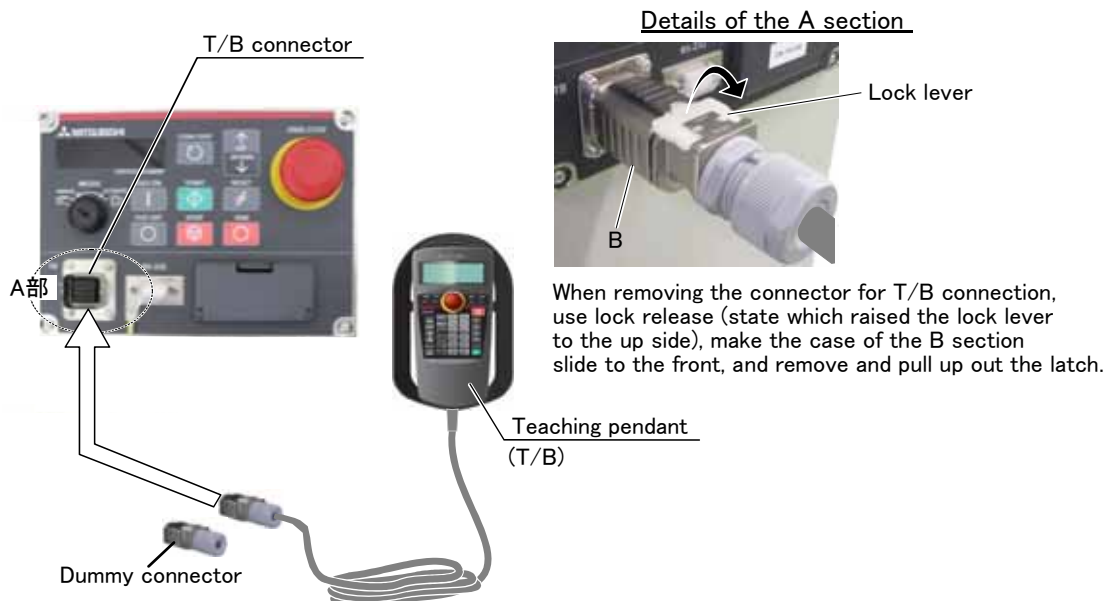

Fig.2-8 : Installing and removing the T/B
- 2) Connects T/B connector to the robot controller. Use as the upper surface the lock lever shown in Fig. 2-8, and push in until there is sound.